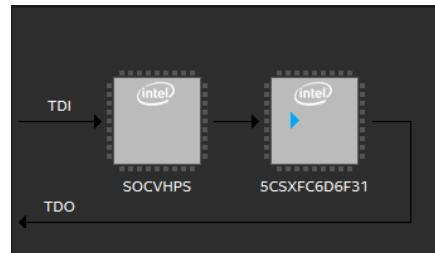

Figure 17. SOCVHPS
34. The new device will appear to the right of the FPGA device in the chain. **Click and drag SOCVHPS** to the **left of the FPGA** in the chain, so TDI connects to SOCVHPS, as shown in Figure 17.